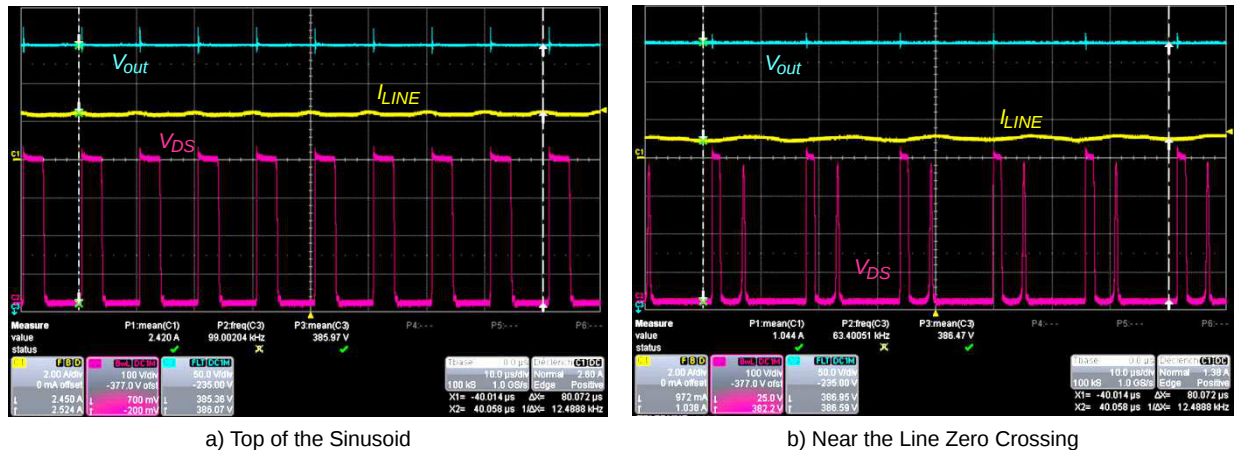

Figure 5. Operation at 115 V rms, 40% Load
- At 40% of the load, the circuit operates in critical conduction mode with a 125-kHz clamp (frequency-clamped critical conduction mode – FCCrM) leading to valley 2 operation near the line zero crossing as illustrated by Figure 5.